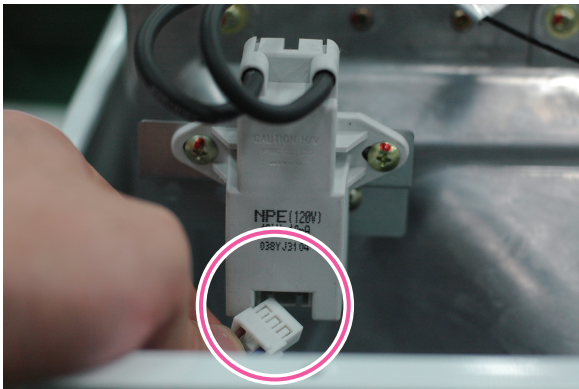

Figure 9
5. Disconnect the wiring connector from the Ignition Transformer (Figure 9).